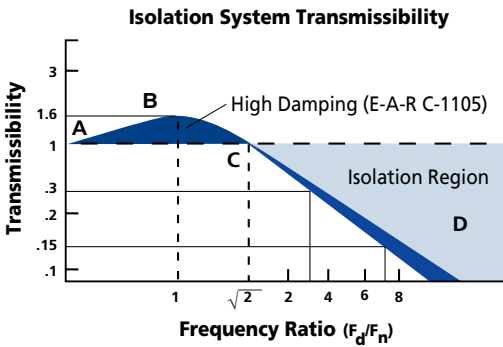
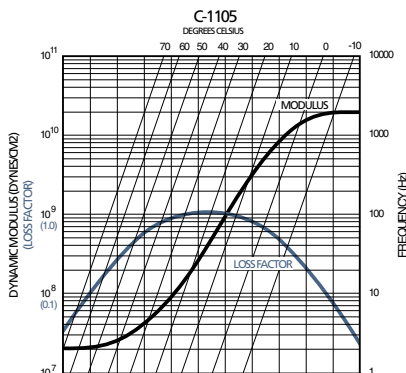

Figure 3
Figure 4
- Per the graph in Figure 3 using frequency ratios, there will be 0.3 to 0.15 Transmissibility (or 70 percent to 85 percent isolation) in that range
- To estimate peak transmissibility as shown in Figure 3, use loss factor from the material nomogram (Figure 4) and equation at left. ( $\eta_m = 0.8, T_{max} = 1.6$ )